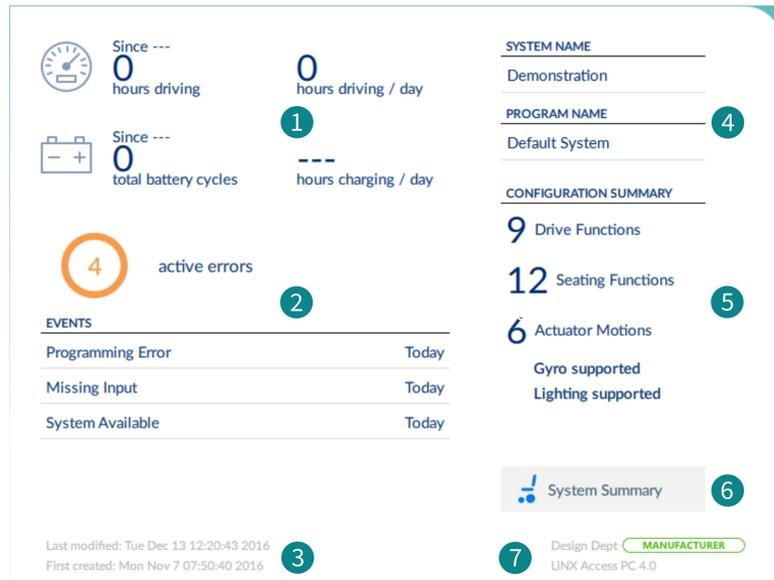

Figure 100: Viewing system information
To view, click the **System Summary** button (see item 6 in *Figure 100*) at the lower-right of the home screen.